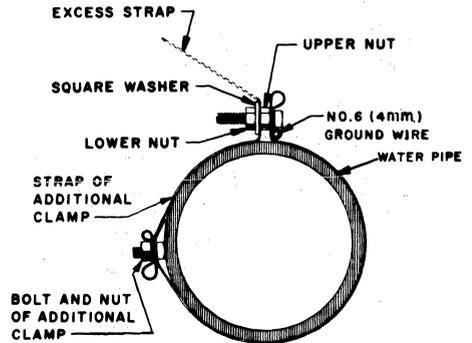
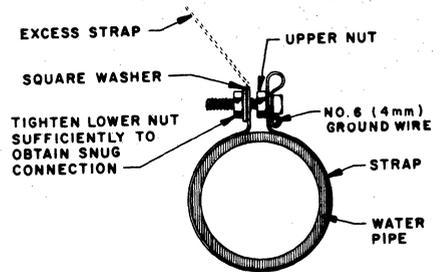
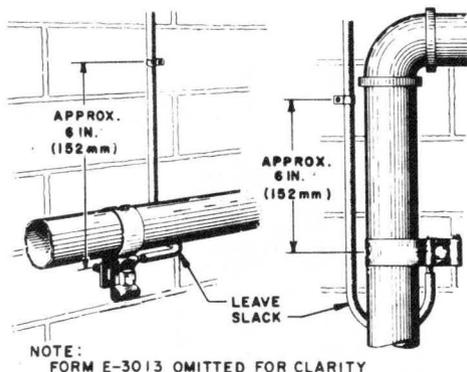

Fig. 62—Attaching L Ground Clamp to Pipes Larger Than 3 Inches
Fig. 63—Attaching L Ground Clamp to 3-Inch and Smaller Pipe
Fig. 64—♦Typical Installation—L Ground Clamp♦
- (5) Bend the strap around the pipe and engage the bolt with the farthest possible hole from the end of the strap. (On pipes larger than 3 inches, fasten two straps together [Fig. 62].)
- (6) Mount the square washer and lower nut on the bolt of the initial clamp and tighten nut.
- (7) Break off excess strap at the square washer and cut off excess length of bolt if it interferes with the installation of the clamp or projects in a hazardous manner (Fig. 63). (See Fig. 64 for typical installations of L ground clamp.)